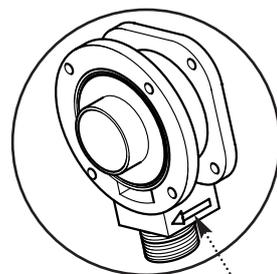

Fig. 84
- Important: When fitting the new venturi, ensure the arrows on its base point into the collector (Fig. 84).